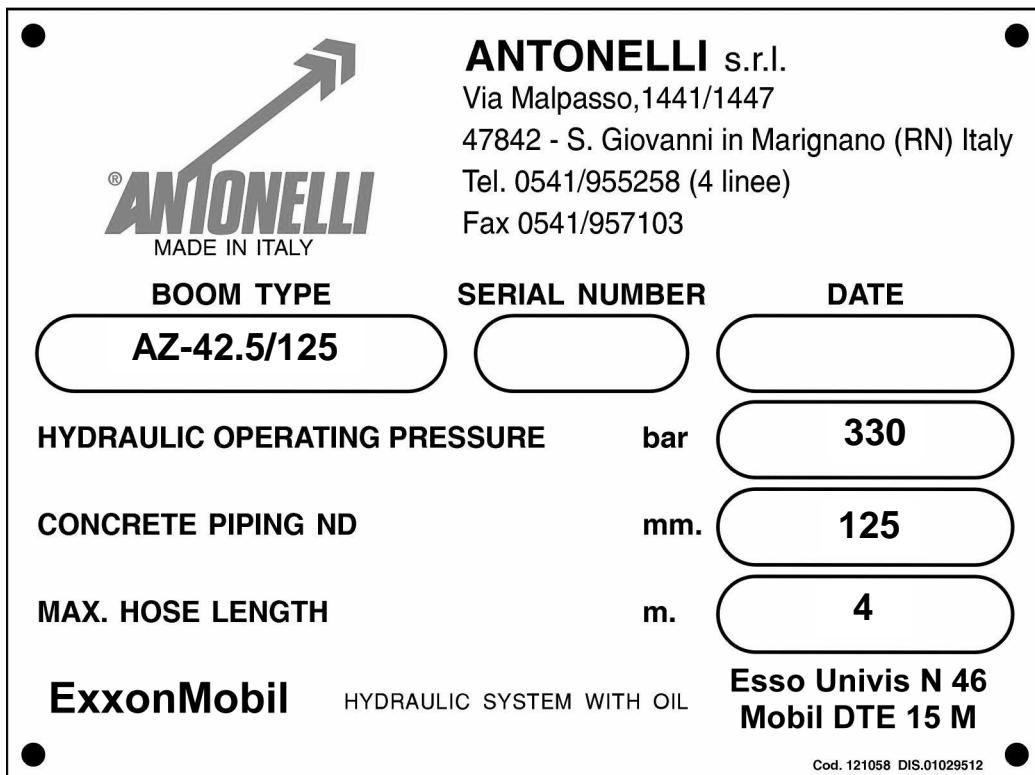

Fig.1
The boom identification plate of fig. 1 is located on the turret structure as from pos. 6 of Pag. 8.